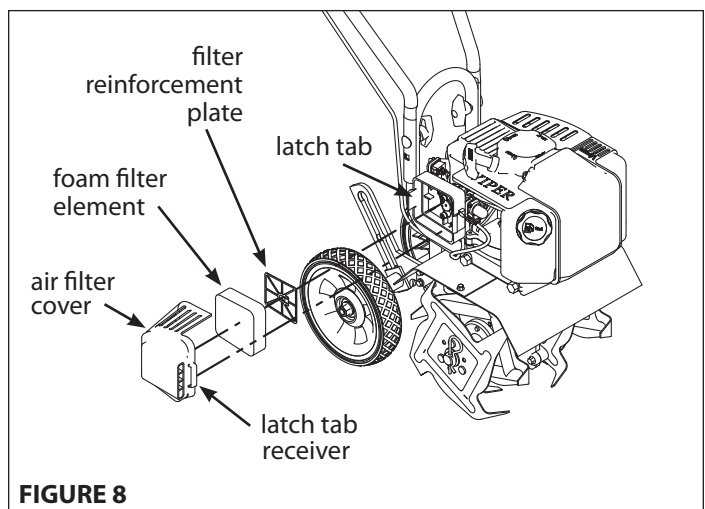

FIGURE 8
2. To remove air filter cover, squeeze the latch tabs on both sides of the cover. **SEE FIGURE 8**
4. Remove the foam filter element (**SEE FIGURE 8**). Replace with a new oiled foam filter or clean the original foam filter with warm water and mild soap. Remember to thoroughly oil the foam filter with 30 or 40 weight motor oil and squeeze out any excess oil before reinstalling it. Make sure to press the foam filter evenly into place over the filter reinforcement plate to ensure that the foam is fully seated into its sealed position.